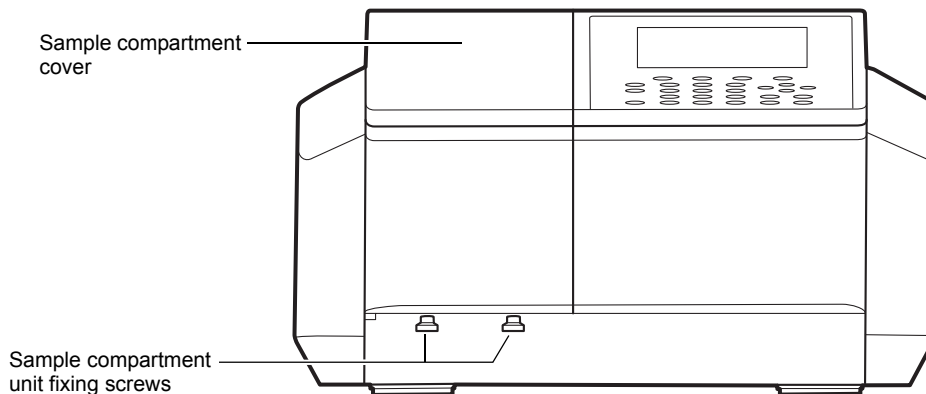

Fig. 4.4 Main body front view
- 2 Tighten two of the sample compartment fixing screws (Fig. 4.4) to fix the sample compartment unit.
- 3 Close the sample compartment cover (Fig. 4.4).
- 5 Close the sample compartment cover (Fig. 4.4).
- 6 Close the sample compartment cover (Fig. 4.4).